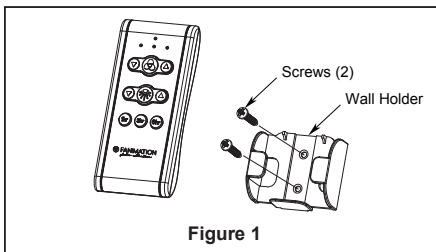

Figure 1
To avoid possible fire or shock, be sure electricity is turned off at the main fuse box before hanging. (Figure 1)
1. To set the code on receiver unit, slide dip switches to the same positions as set on the remote. (Figure 1)
- ☐ 1. Assemble canopy by rotating key slot in canopy over shoulder screw in hanger bracket, taking care not to pinch the wires. Tighten shoulder screw. Fully assemble and tighten second shoulder screw that was previously removed. (Figure 1)
- ☐ **1. IMPORTANT:** Using a full range dimmer switch (not included) to control fan speed will damage the fan. To reduce the risk of fire or electrical shock, do not use a full range dimmer switch to control the fan speed. (Figure 1)
- ☐ **1. Installing Wall Holder:** (Figure 1)